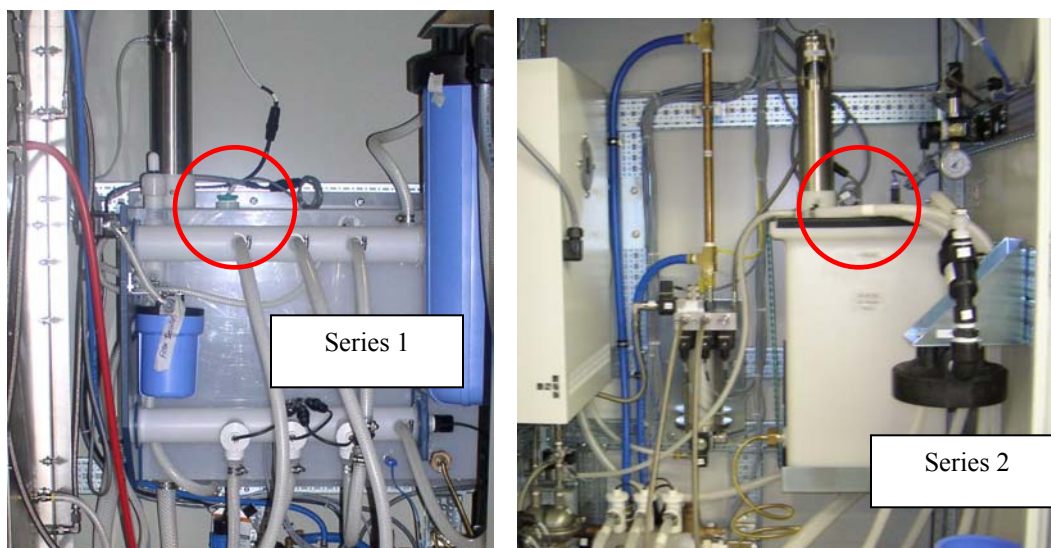

Figure 53 Level Sensor (LS201) Location in the H Series Hydrogen Generators
4. Open the fluid-side doors and locate the level sensor (LS201), which is found on top of the WOMS tank. (Refer to Figure 53.)